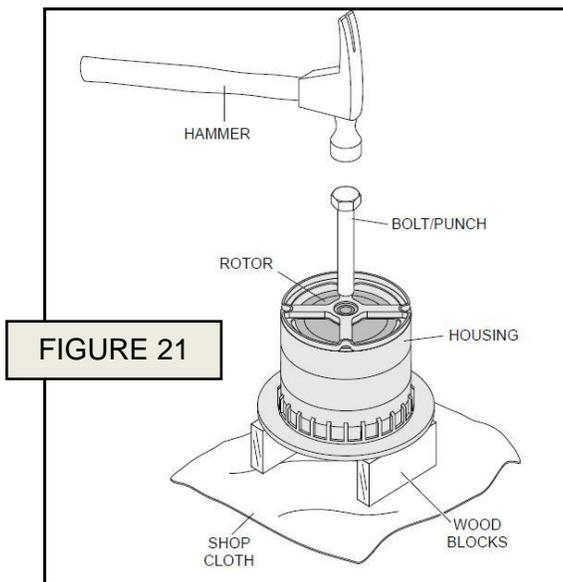

FIGURE 21
- Free the rotor from the housing by placing the generator disc plate down on top of two wood blocks. Place a shop cloth below to keep the rotor clean. Place a bolt or punch in the center of the rotor bearing and hit with a hammer to dislodge the rotor. See FIGURE 21.